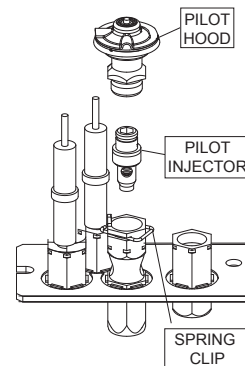

Fig. 3
- ☐ 6. Remove pilot spring clip then the pilot hood from the pilot assembly by pulling vertically. Use a $\frac{5}{32}$ " Allen key to unscrew the injector. Replace the pilot injector with the one supplied **(Fig. 3)**. Re-assemble the pilot hood onto the assembly and reattach spring clip ensuring key position for proper alignment.